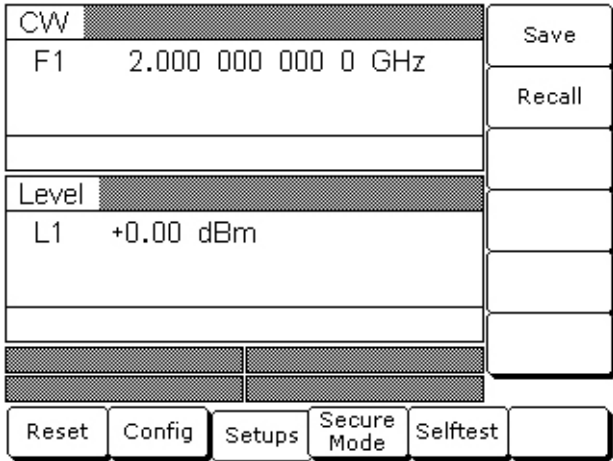

Figure 3-78. Setups Menu
2. Press **Setups**. The Setups menu (Figure 3-78) is displayed.